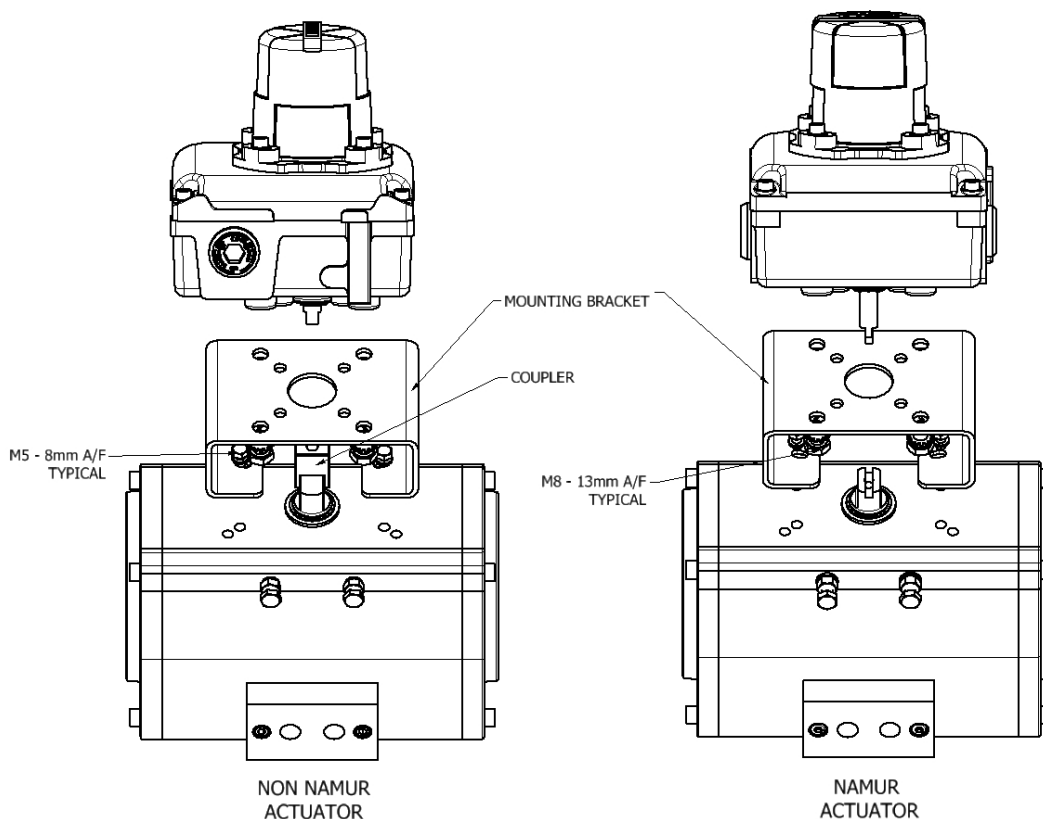

Fig 1
- 4.3 Attach the unit and mounting system to the actuator. See Figure 1.